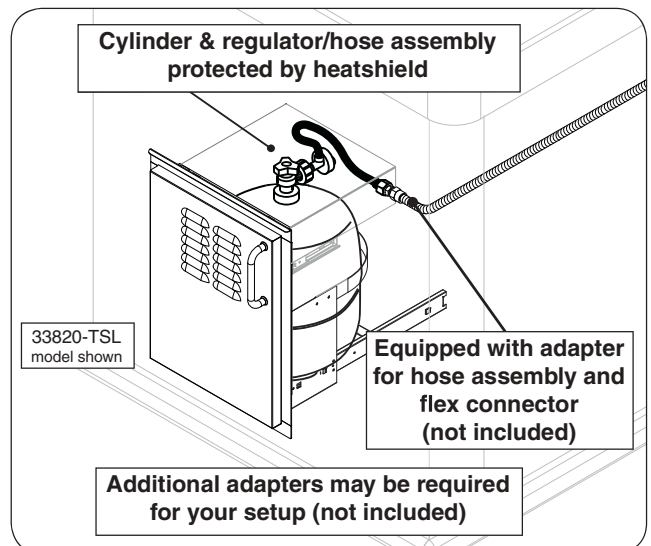

Fig. 12-3 Optional RHP door w/ tank tray
- RHP offers propane tank door with tank tray models to meet the cylinder install requirements. See Fig. 12-3. Contact your dealer for ordering information.